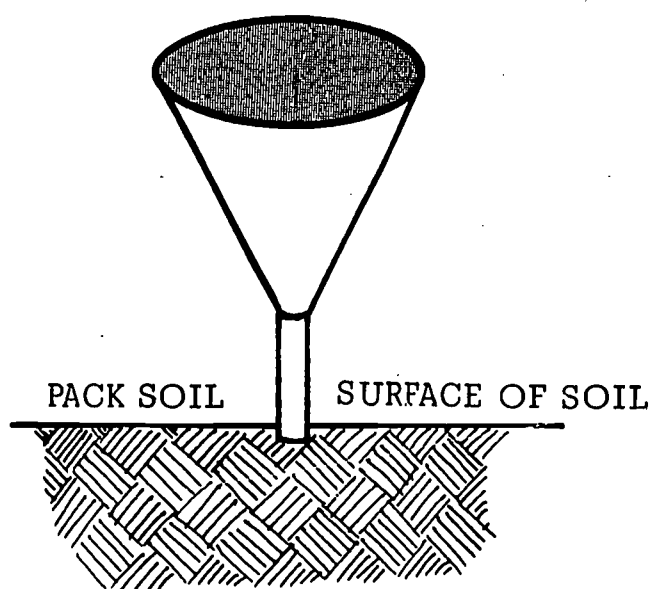

Fig. 9A-4. Funnel Placement
13. Fill the plastic tray with water until the bottom of the soil pans are covered about 1". See Fig. 9A-7.